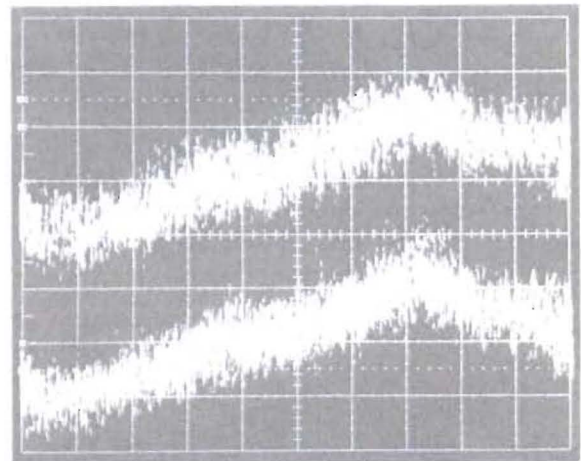

Figure 41 Dual Trace Display of Noise
2. Connect the noise to both vertical channels simultaneously in the alternate-sweep mode. Two noise traces will appear (Figure 41).